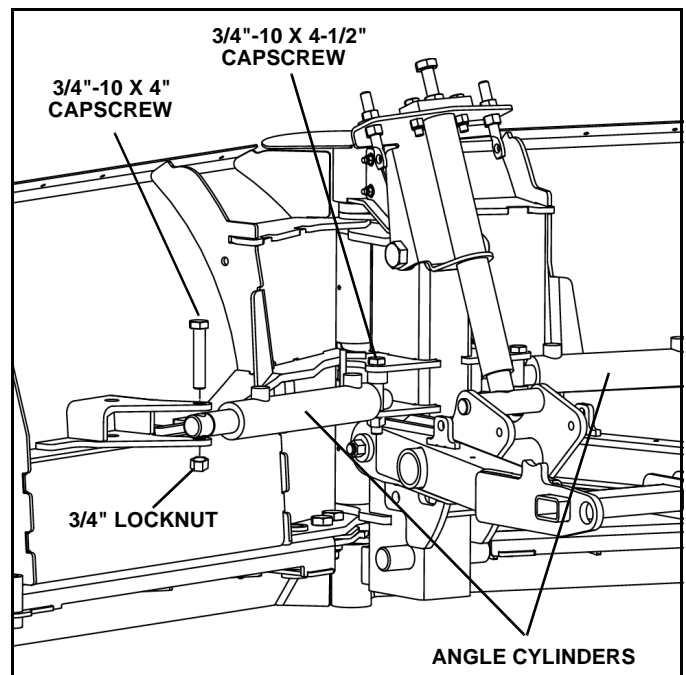

Figure 1-9
12. Attach angle cylinder base to tower with a 3/4" x 4-1/2" capscrew and 3/4" locknut. Attach angle cylinder rod to blade with a 3/4" x 4" capscrew and 3/4" locknut. (See Figure 1-9). Repeat for opposite angle cylinder.